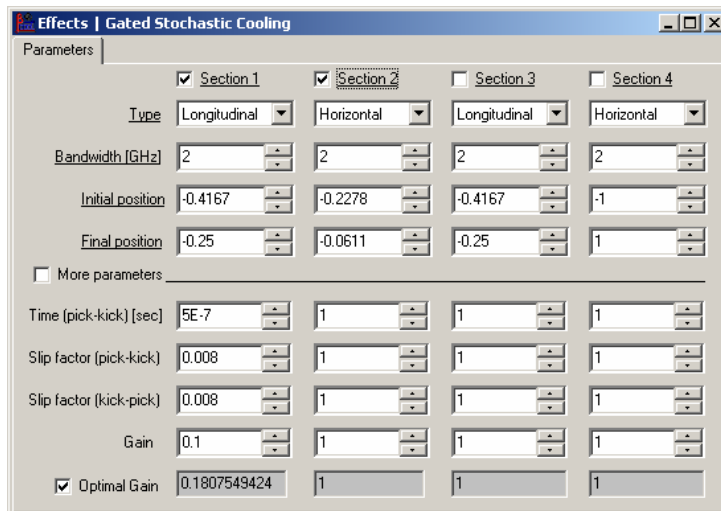
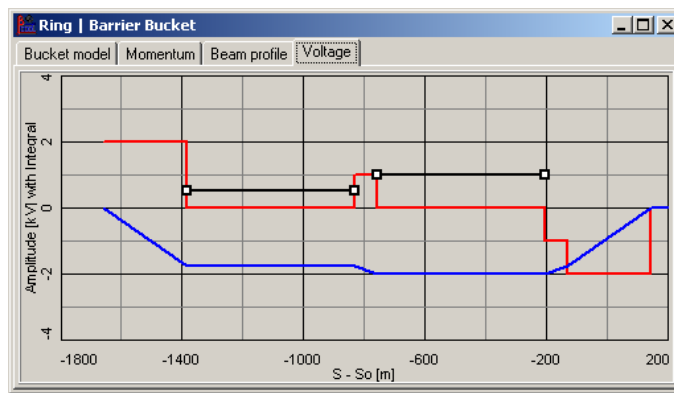

Fig.1. Parameters of gated stochastic cooling.
Fig.2. Barrier Bucket voltage distribution.
The gated stochastic cooling has four identical **Sections** (Fig.1) with the same input parameters: **Type** (horizontal, vertical or longitudinal), **Bandwidth [GHz]**, **Initial position** and **Final position** of the cooling section in the unit of circumference (the same as position of Barrier Buckets). Check enabled option **More parameters** for simulation with Formula (1). **Time (pick-kick)** – flight time from pick-up to kicker, flight time from kicker to pick-up is calculated via revolution time. **Slip factor** – slip factors between pick-up and kickers. Noise supposed to be equal 0. User can define
To use this approximation switch off option **More parameters** (Fig.1) Position of each active cooling section is indicated by the black horizontal line with square points on the Barrier Bucket Form (Fig.2).